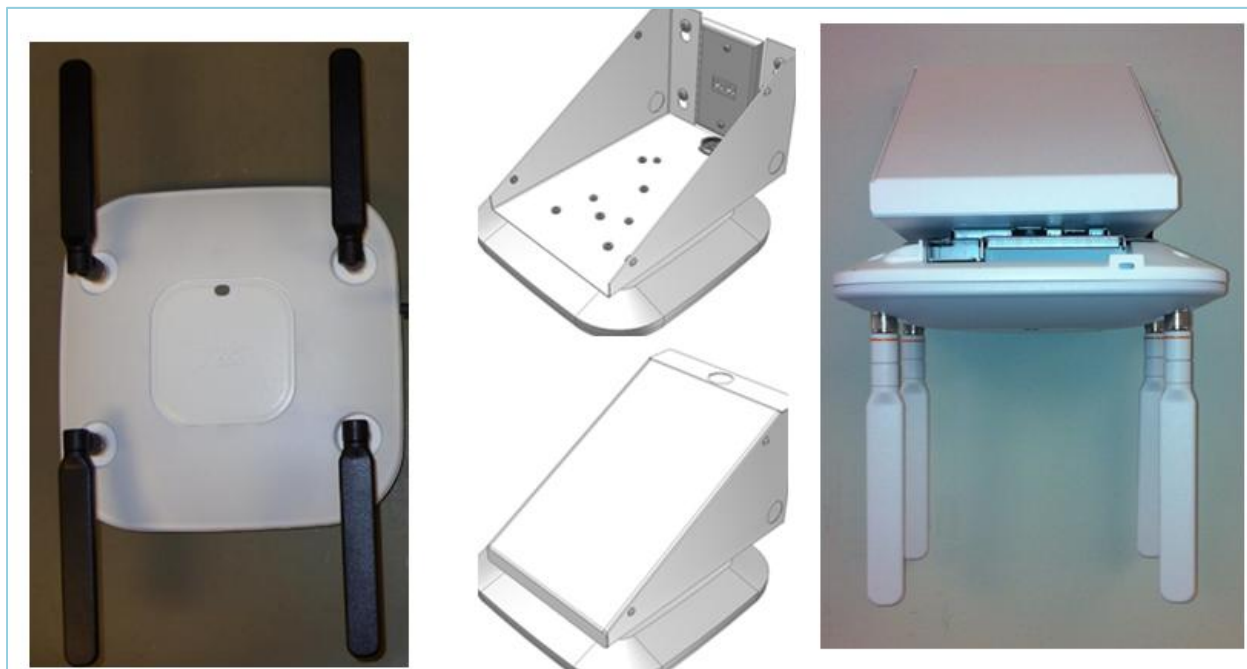

Figure 21: Vertical (Up/Down) Antennas on a Wall-Mounted AP (Left); Oberon Wall Mount Bracket (Center, Right)
- Use an optional wall mount bracket, such as the Oberon P/N 1029-00, that puts the AP 3600i or the AP 3500e into a horizontal orientation. (See Figure 21.) Use this Oberon bracket unless you have a hotspot, kiosk, or small venue scenario and roaming is not an issue.